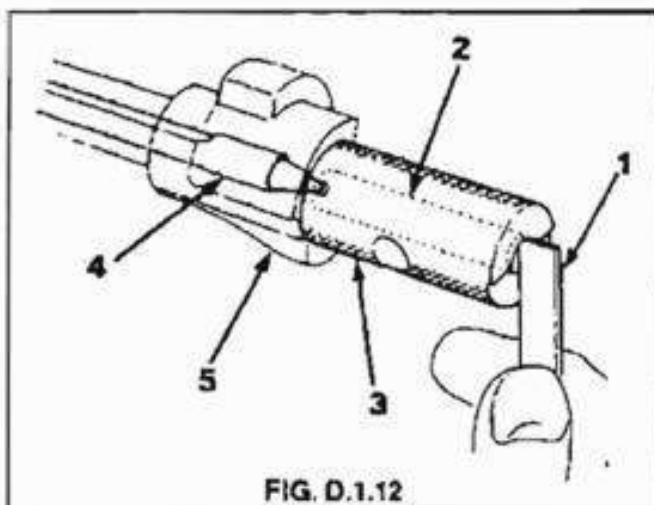

FIG. D.1.12
15. With the aid of a straight edge, check that the end of the floating rod inside the gauge is level with, or protrudes beyond, the face of the lowest step on the gauge. If the rod end does not reach the straight edge the firing pin is out of limits and must be replaced. See Fig. D.1.12